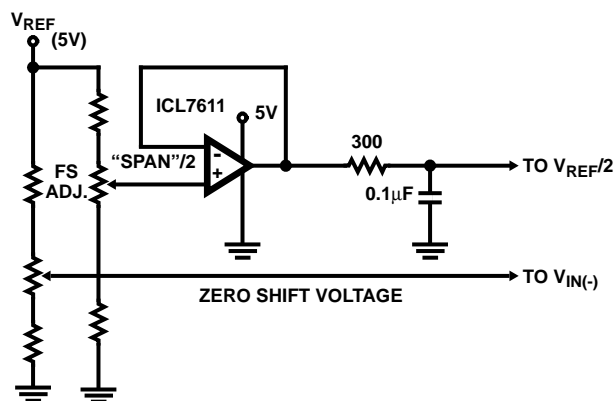
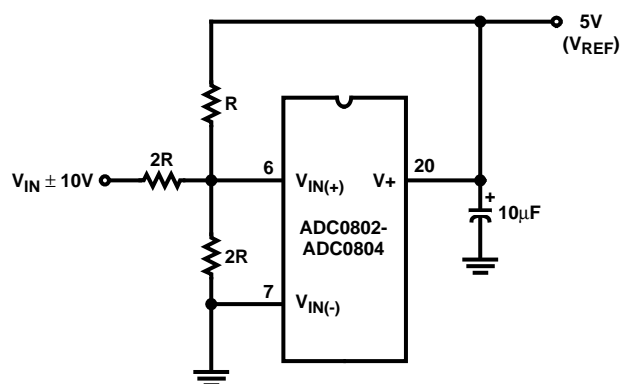

FIGURE 13. OFFSETTING THE ZERO OF THE ADC0802 AND PERFORMING AN INPUT RANGE (SPAN) ADJUSTMENT
FIGURE 14. HANDLING ±10V ANALOG INPUT RANGE
3.5V, instead of 0V to 5V, the span would be 3V. With 0.5V applied to the $V_{IN(-)}$ pin to absorb the offset, the reference voltage can be made equal to $1/2$ of the 3V span or 1.5V. The A/D now will encode the $V_{IN(+)}$ signal from 0.5V to 3.5V with the 0.5V input corresponding to zero and the 3.5V input corresponding to full-scale. The full 8 bits of resolution are therefore applied over this reduced analog input voltage range. The requisite connections are shown in Figure 13. For expanded scale inputs, the circuits of Figures 14 and 15 can be used.